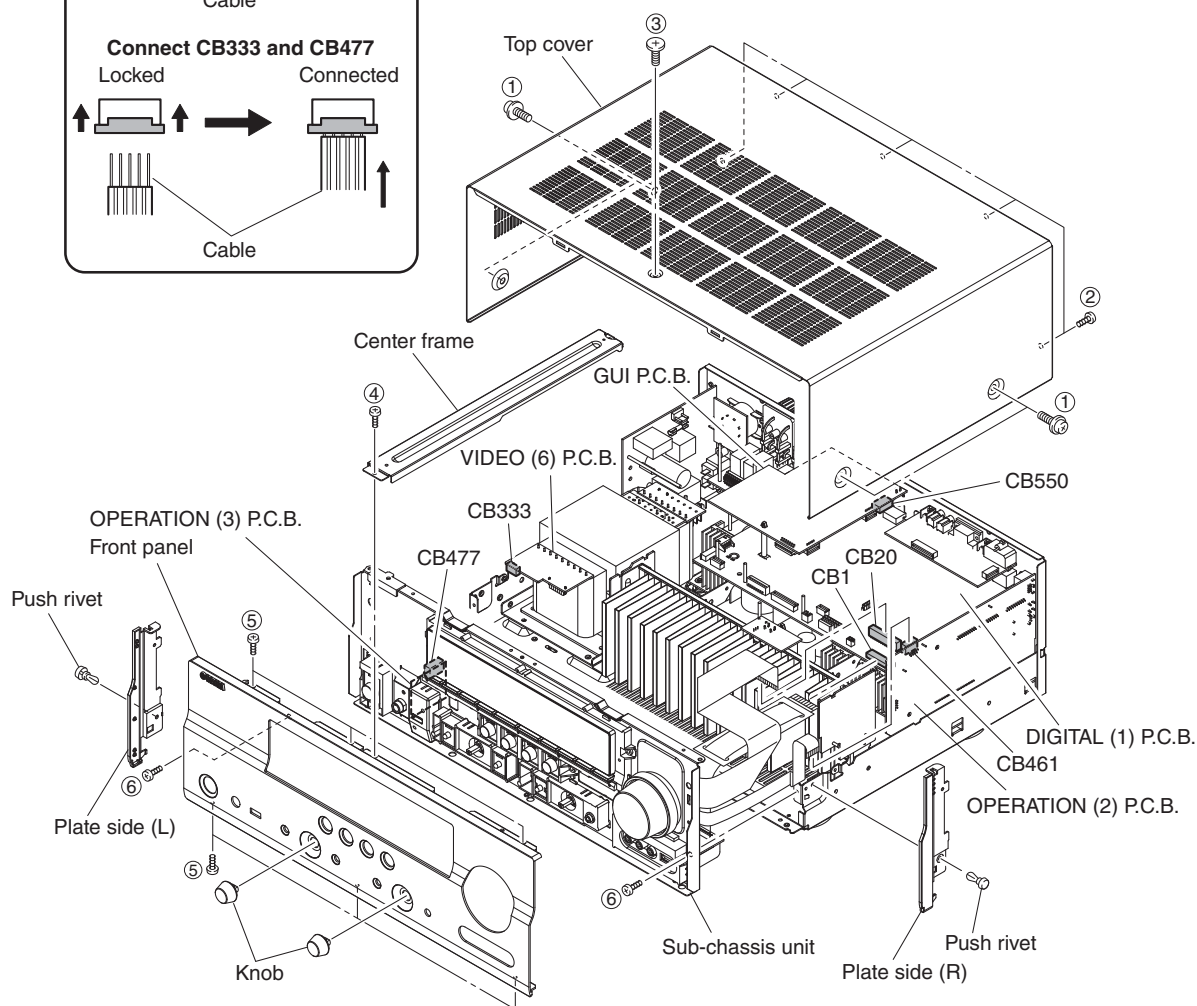

Fig. 1
- Remove 4 screws (①), 5 screws (②) and screw (③). (Fig. 1)
- Slide the top cover rearward to remove it. (Fig. 1)
- Remove screw (④) and then remove the center frame. (Fig. 1)
- Remove 2 knobs. (Fig. 1)
- Remove 6 screws (⑤) and then remove the front panel. (Fig. 1)
- Remove 2 push rivets and then remove the plate side (L) and (R). (Fig. 1)
- Remove CB1, CB20, CB461 and CB550. (Fig. 1)
- Remove 2 screws (⑥) and then pull out the sub-chassis unit. (Fig. 1)
- Unlock and remove CB333 and CB477. (Fig. 1)
- Remove the sub-chassis unit. (Fig. 1)